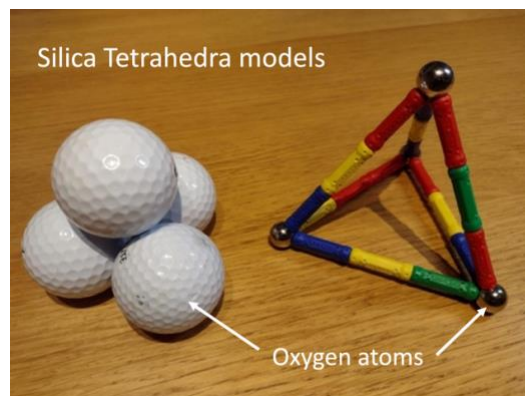

Fig 1. Silicon/oxygen tetrahedron models (Pete Loader)
- Demonstrate the building of one tetrahedron to the whole group and revise silicate structure (See Fig 1).